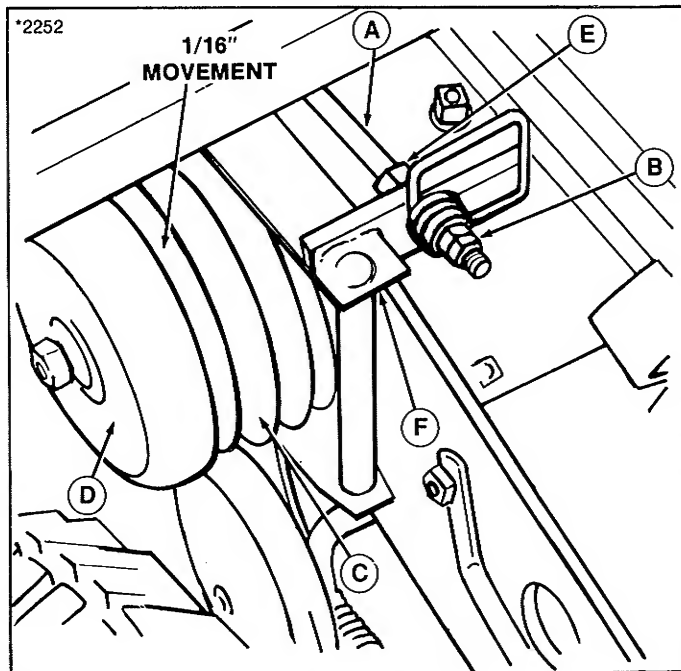

Figure 24. PTO Clutch Adjustment
The PTO clutch is properly adjusted when the clutch pulley (C, figure 24) moves away from clutch cone (D) 1/16 inch (1.5 mm) when clutch is disengaged. To adjust, proceed as follows.
1. Loosen the rear nut (B).
4. Adjust locknut (E) so there is 1/8" (3 mm) between locknut (E) and pivot arm when clutch is disengaged.